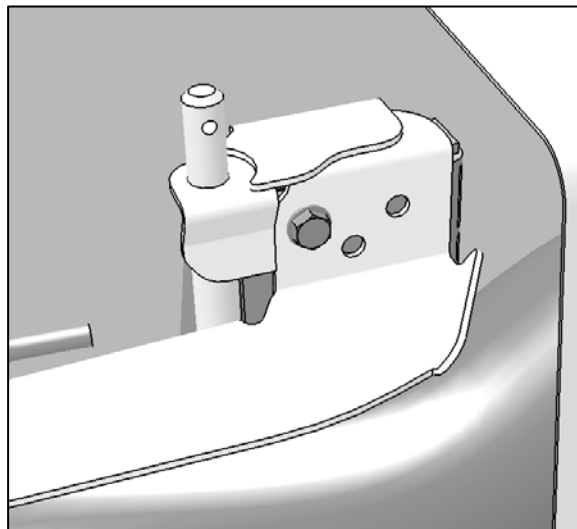

Figure 8
- With the front end installed, drill a first hole using the part as a template. (Fig. 8)